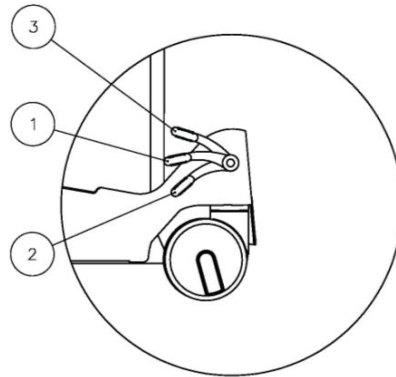

Fig.10
movement of the footrest. Such loosening means that the footrest locking mechanism is not secure and poses potential danger when the operating table is in use. If a situation like this occurs, adjust the clamping force of the handle by following these steps: release the movement locking mechanism by lifting up the lever (fig. 10, pos. 1), set the clamping force by rotating the handle nut (fig. 10, pos. 2) and lock the handle by pushing its lever down towards the frame. The clamping force is set correctly when it is impossible to move the footrest with the handle closed.
Leg rest segments (Fig. 1, item 3) may be attached to and detached from the seat segment using a button-controlled mechanism (Fig. 10, item 1). To detach the leg rest segment, hold the underside of the segment, press and hold the button and lift the segment upwards until it is released from the seat segment spigot (Fig. 1, item 2). To attach the leg rest segment, mount the leg rest segment socket on the seat segment spigot. Do not press the button, the leg rest segment will set in appropriate position automatically and lock on the spigot. Leg rest angle can be adjusted within the range specified in the technical data by lifting the lever (Fig. 1, item 11) and moving the leg rest segment up or down to the
- Upper - direction blockade (fig.10, pos.3),
- Middle (horizontal) - blockade released (fig. 10, pos.1),
- Lower - all castors blocked (fig.10, pos.2).